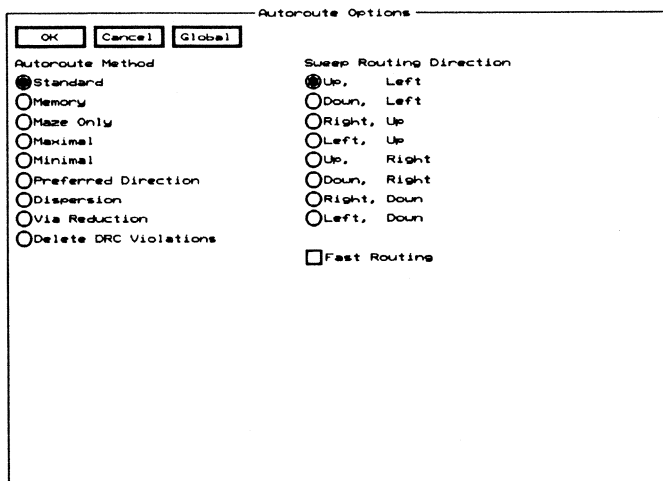

Figure 8-2. The *Autoroute Options* dialog box.
1. Select **GO TO FUNCTION Autorouter**, then select **Set**. The **Autoroute Options** dialog box displays (figure 8-2).